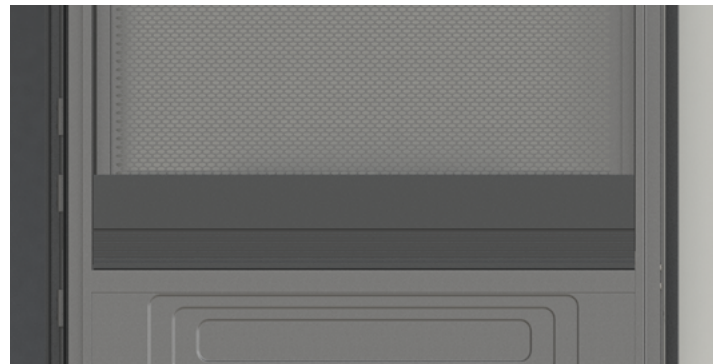

Fig.5
5. Place the assembled extrusions on the low frame rail of the screen door (Fig.5).